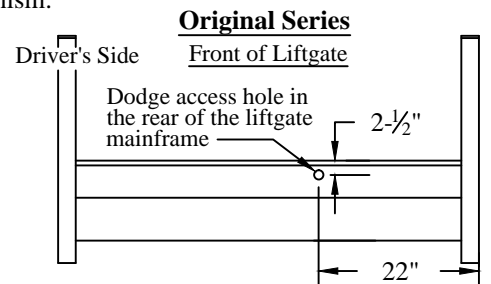

Figure 17: Original Series spare tire access.
2. **Remove** the black plastic plug from the mainframe in the location shown (Figure 17).